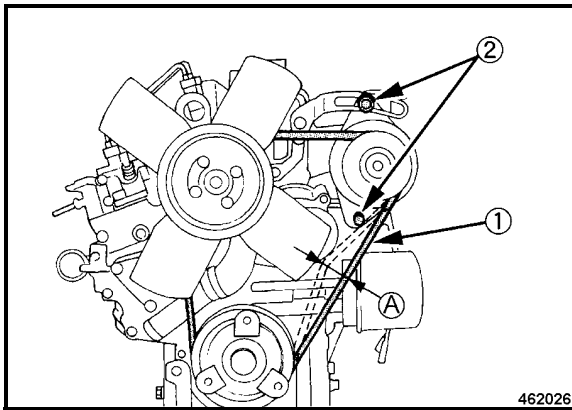

Fig. 136
- Inspect the entire circumference of the V-belt (1) (Fig. 136) visually for damage and cracks.